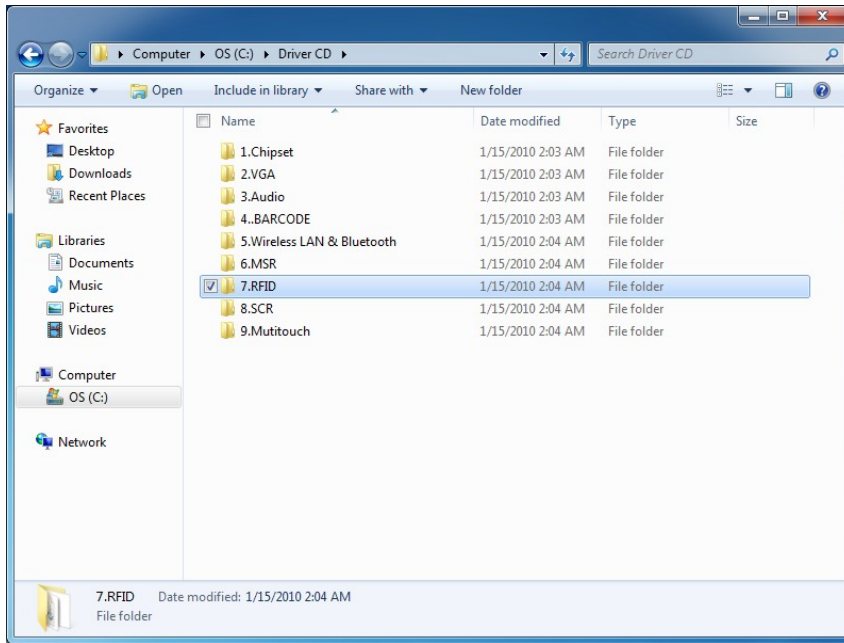

Figure 4-11: RFID Driver Location
Step 1: Select **7.RFID** from the list of the driver CD shown in **Figure 4-11**.